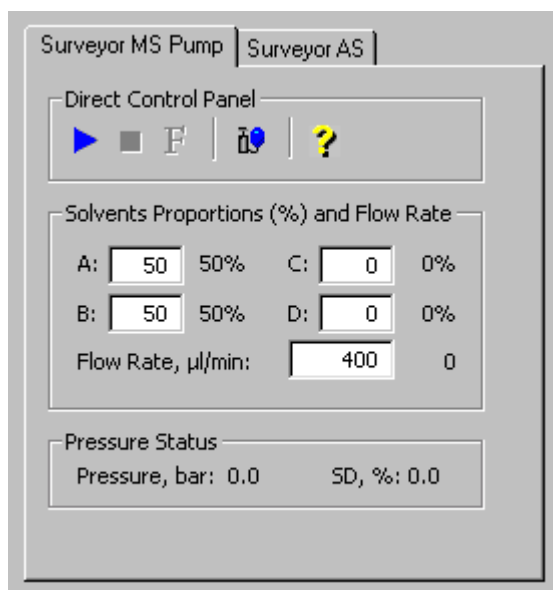

Figure 5-7. Inlet Direct Control view, showing pump Off
- a. On the Control / Scan Mode toolbar, click on the AS/LC Direct Control button to display the Inlet Direct Control view in the top right corner of the workspace. See Figure 5-7.